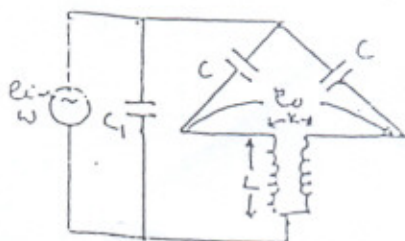

Fig 4. Q. 2 C
- C) In the Blumlein's bridge, a differential capacitance is connected as shown in Fig.4. The coupling coefficient of the 1:1 transformer is k , and the self inductance of the winding is L . Derive an expression for the sensitivity of the bridge, for (i) $k=1$ and (ii) $k=0$. (4)